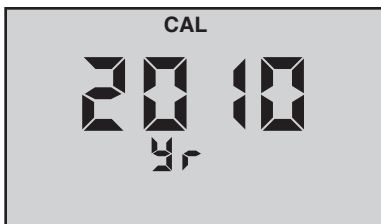

Figure 13
3. Press $\frac{\text{CAL}}{\text{MCLR}}$ to initiate. “**CAL**” will be displayed along with the YEAR (see Figure 13).